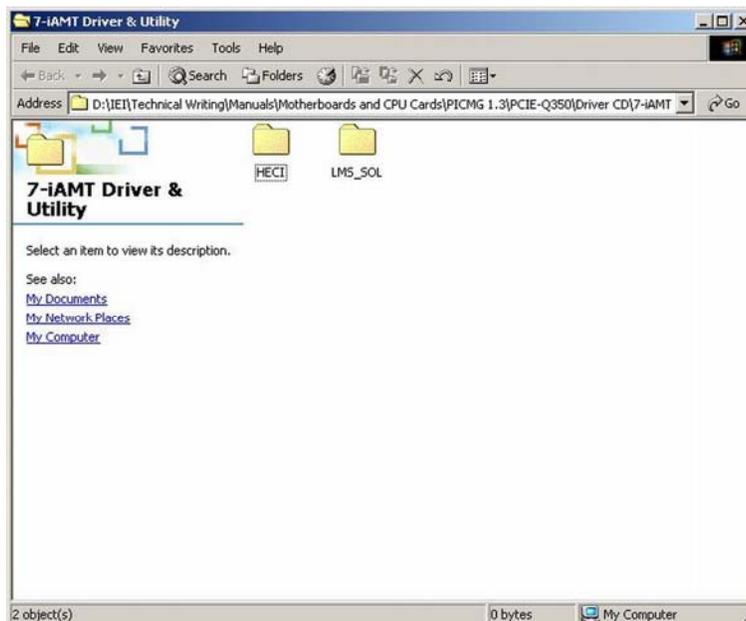

Figure 6-42: Intel® AMT Driver Directory
Step 13: Go back to **AMT** directory (**Figure 6-42**).